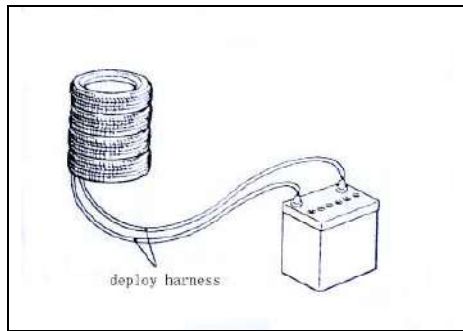

Fig 19-51
8) Separate the deployment harnesses as far from the driver's side air bag module as possible and connect to the terminals of the battery removed from the vehicle,Then deploy . (See fig 19-51)